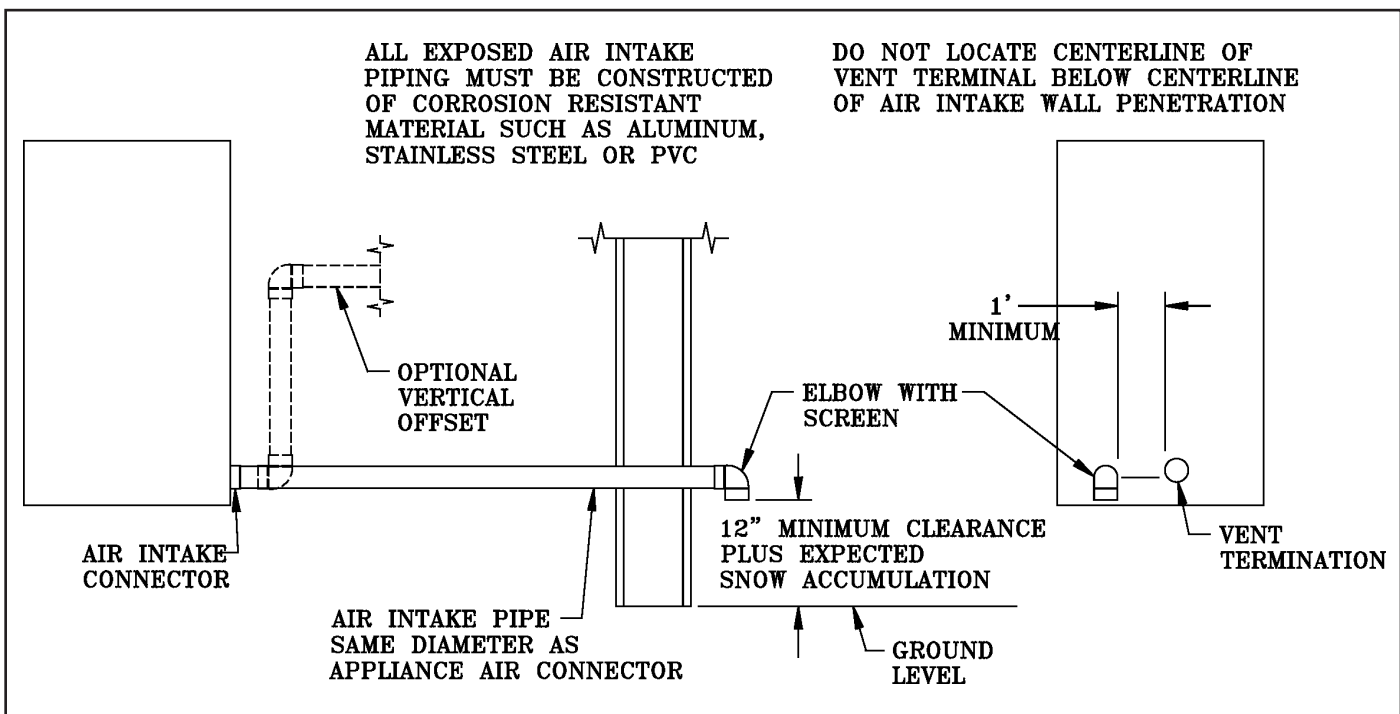

Figure 6: Horizontal Air Intake Piping
1. See Figures 6 and 7.
5. The maximum air intake pipe length is fifty (50) equivalent feet. Air intake pipe length is equal to the total length of straight pipe plus the equivalent length of fittings.